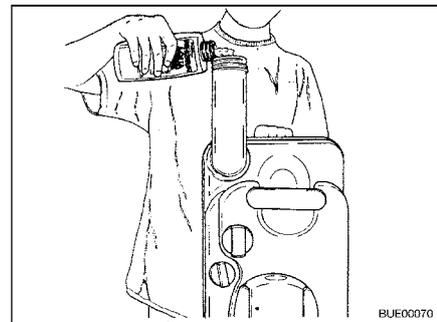

Fig. 155 Filling with sanitary liquid
- Fill the stated amount of sanitary liquid into the sewage tank (Fig. 155).